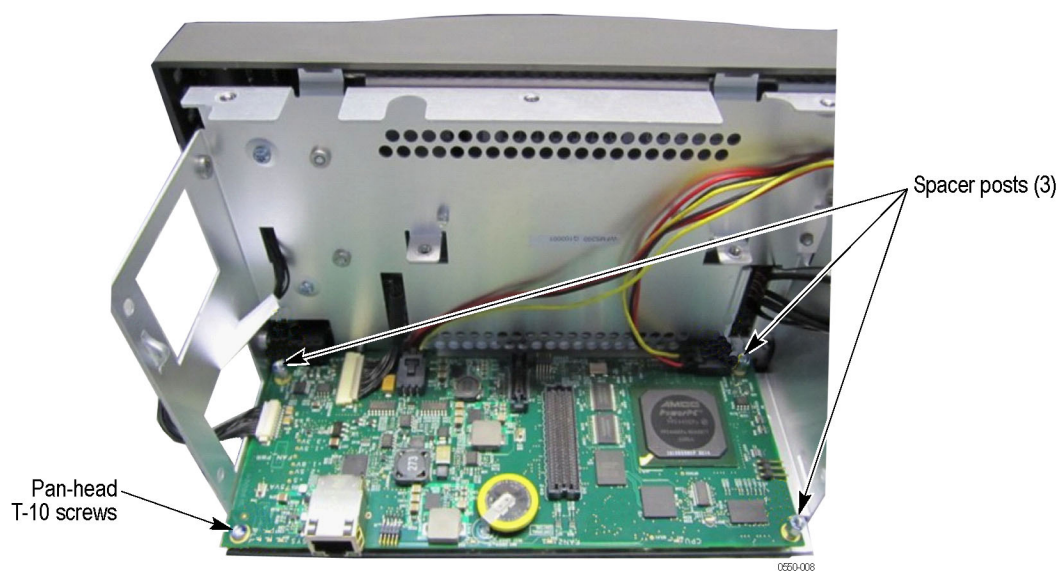

Figure 7: CPU board screw and spacer posts
2. Remove the one pan-head 40 X 0.187 T10 screw that secures the CPU board to the main chassis. When reinstalling, put the screw in the lower left corner of the board. Tighten this screw to 0.62 N-M (5.5 in/lb). (See Figure 7.)